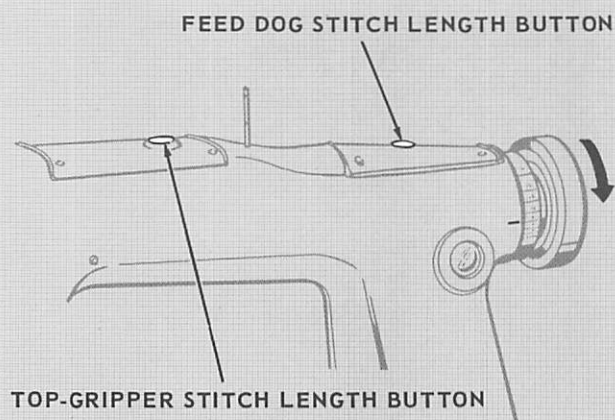

Fig. 30. Machine 281-6
2. Depress feed dog stitch length button, shown in Fig. 30.